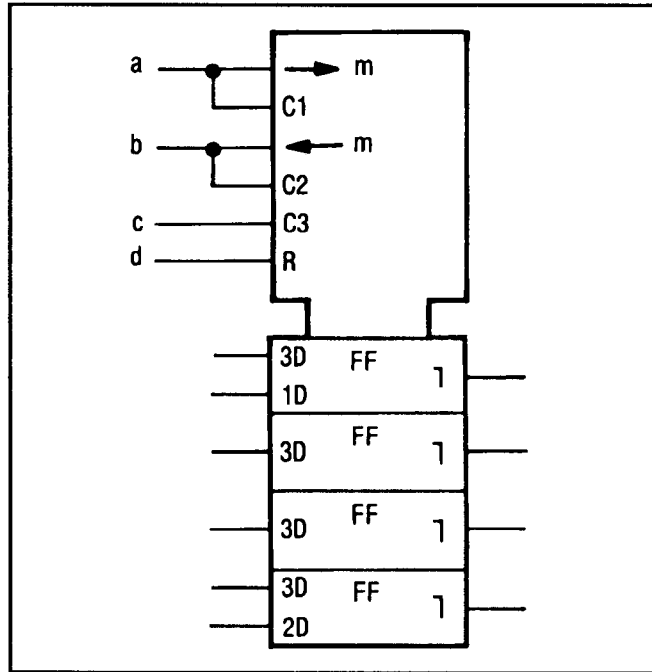

Figure 8-10. Shift Register
**Shift Register.** The shift register (see figure 8-10) control block shows common inputs to a bidirectional shift register. Notice that “>*m*” means shift the contents to the right or down by “*m*” units. And “<*m*” means shift the contents to the left or up by “*m*” units. Note: If *m* = 1, then “*m*” may be omitted. Inputs “a” and “b” are each single IC pins that have two functions. Input “a” enables one of the inputs to the top D-type flip-flop (1D) and also shifts the register contents down “*m*” units. Input “b” enables one of the inputs to the bottom flip-flop (2D), and also shifts the register contents up “*m*” units. Input “c” loads all four flip-flops in parallel (3D). Input “d” is a common reset. The output delay indicator is used because these are master-slave flip-flops.